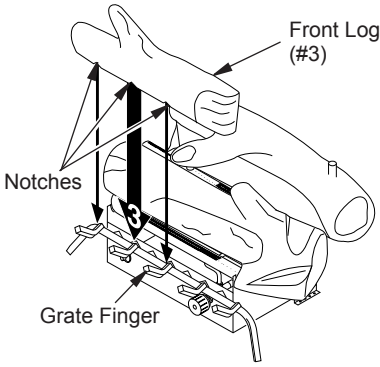

Figure 27 - Installing Front Log (#3)
3. Locate the notches in the bottom of the front log (#3). Place the front log on the grate fingers. Make sure the notches of the front log line up with the grate fingers (see Figure 27, page 18).